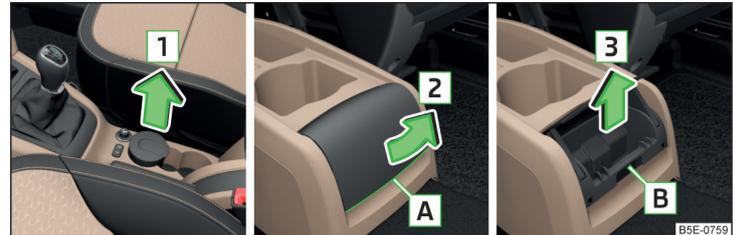

Fig. 81 Low centre console: Remove front ashtray / open rear ashtray / remove rear ashtray
- Remove the ashtray in the direction of the arrow **1** » Fig. 81.
- Grasp the ashtray cover at the lower edge **A** and fold it open in the direction of arrow **2** » Fig. 81. ▶
- Grasp the ashtray at the handle **[B]** and remove in direction of arrow **[3]** » Fig. 81.